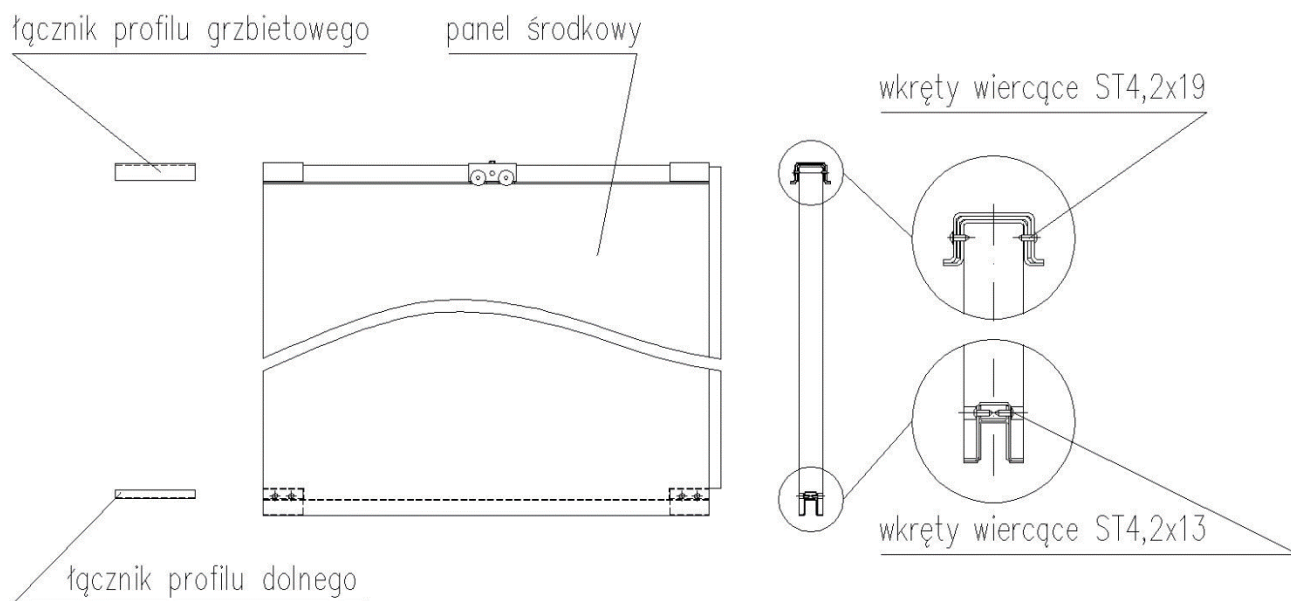

Figure 15: Installing panel connectors
- Join the panels together, using self tapping-screws ST 4.2x13(19) (Fig.15);